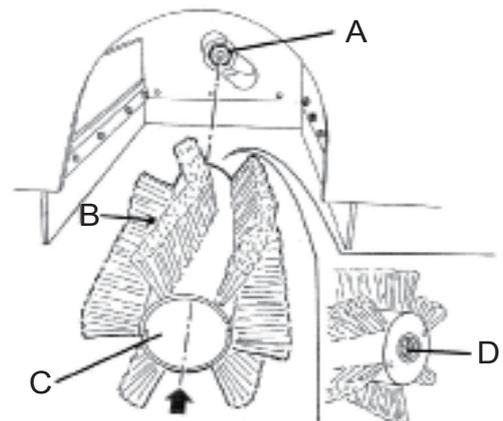

**Figure3**
- 1) Drive the machine on a level floor and release the pedal (2) and stop the machine.
- 3) Unscrew the knobs (34) and remove the right cover (33).
- 4) Loosen the knob (A, Fig. 3).
- 5) Unscrew the knobs (B, Fig. 3) and remove the brush compartment cover (C).
- 10) Install the broom compartment cover (C, Fig. 3) and tighten the knobs (B) and (A).
- 11) Install the right cover (33), then tighten the knobs (34).